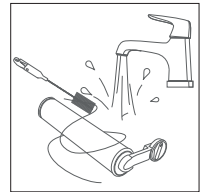

Fig. 15 – Cleaning the microfibre roller
- ▶ Clean the microfibre roller under running water. If necessary, also use the cleaning brush supplied (28) (**see Fig. 15**).